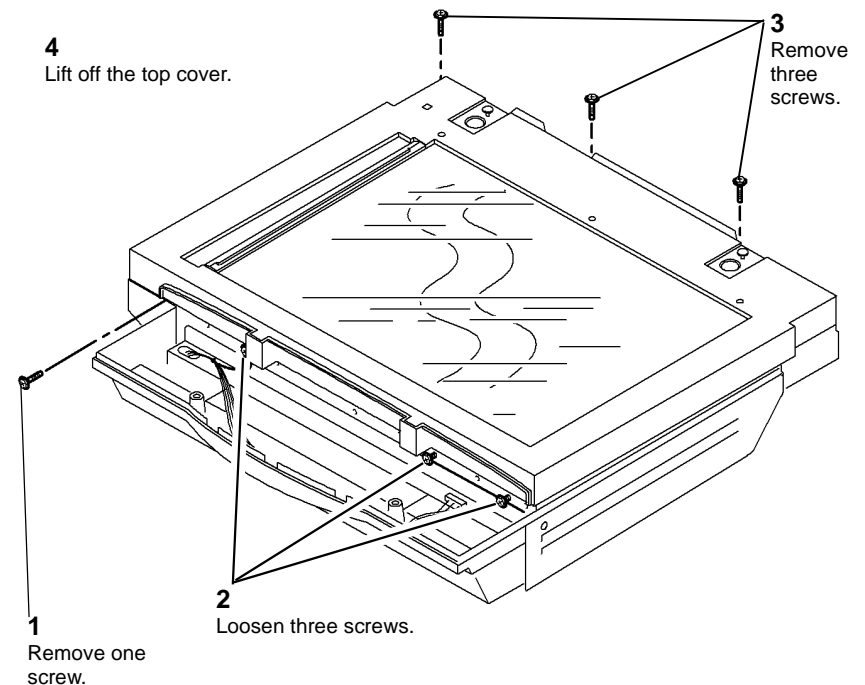

Figure 1 Top cover removal
3. **Figure 1**, remove the top cover.